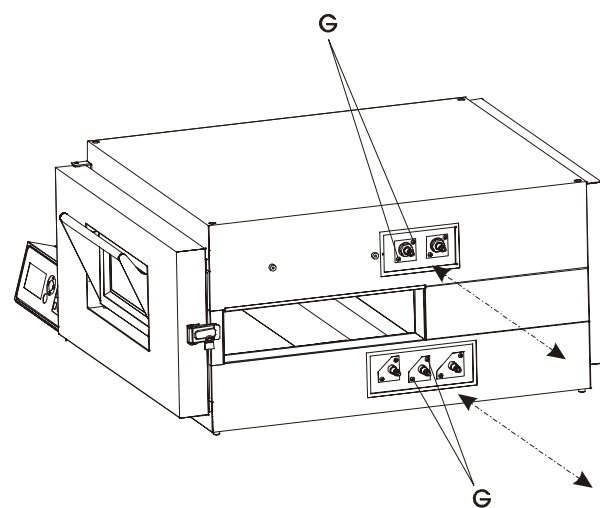

Fig.21
- Change the dip-switch (fig. 21 item 3) on the LCD monitor control panel to OFF or ON according to the temperature scale to be used, as follows:
- To perform the general RESET, restore power to the appliance, taking great care not to touch the live parts, move the dip-switch (fig. 21 item 1) from OFF to ON, wait for 10 seconds, then return the dip-switch to OFF and cut the power supply to the appliance.
- Unfasten the control panel fixing screws (fig.21 item H).
- Using a small screwdriver, turn the adjustment screw (fig.21 item B) to obtain the required contrast.